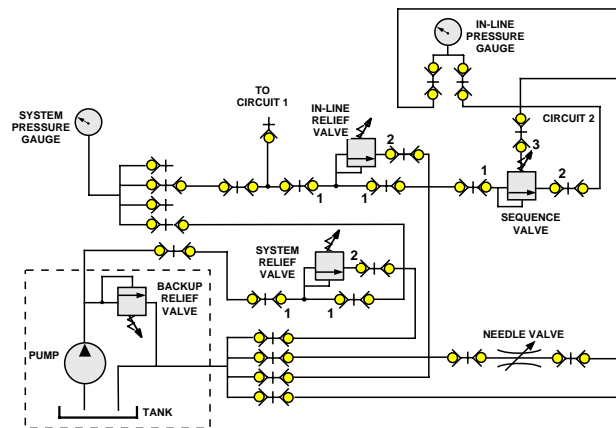

Fig. 3.4.18 Sequence Valve Schematic Field
1. Construct the circuit given in Figure 3.4.18.